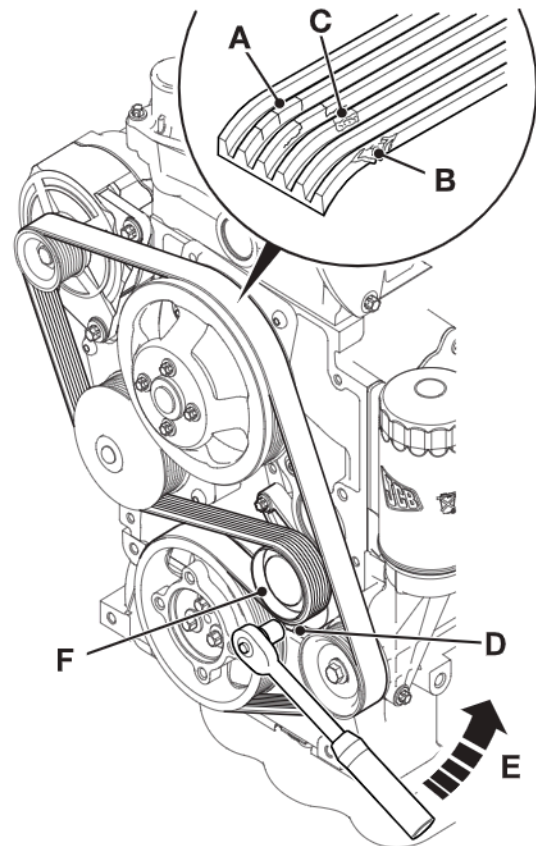

Fig 102.
- 2 Inspect the belt for cracks **A**, fraying **B** or missing pieces **C**. → Fig 102. (□ 138).
- 6 Fit the new drive belt around the pulleys. ⇒ Fig 102. \(□ 138\).